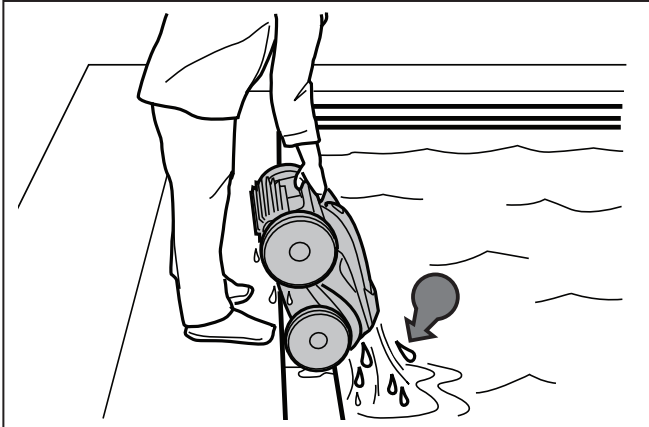

Figure 15. Lift Cleaner From Pool with Handle
6. Hold the cleaner vertically over the pool surface to drain water before removing (Figure 15).